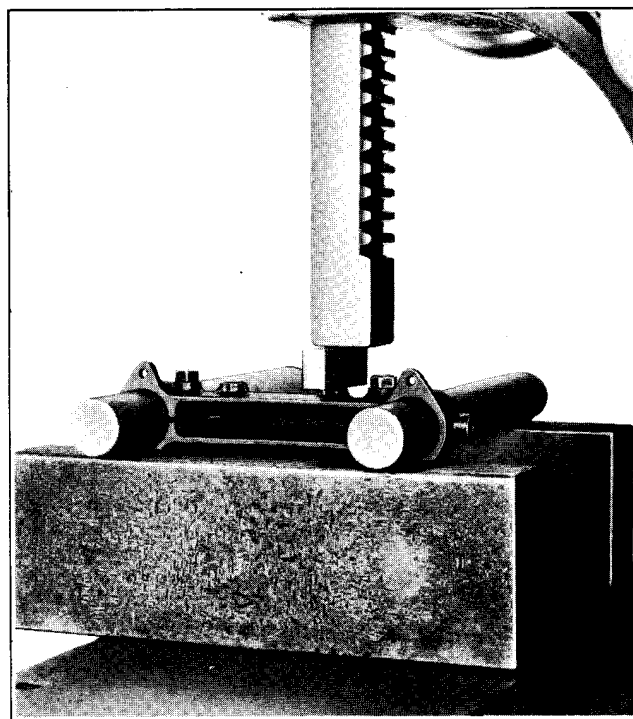

Figure 2-34I. Correcting Bracket Bow
Straightening a fork stem and bracket assembly not only requires a great deal of practice to become proficient, but also several special tools and fixtures, including an arbor press, surface plate or suitable heavy metal plate that is perfectly smooth, bending bar, four straightening blocks (W), two improvised steel gauging bars or legs 1-5/16 in. diameter x 12 in. length (X, Figure 2-34I), two steel support blocks (Y), and several steel press blocks (Z).
press. Then, press on the forward edge of bracket to correct "bow shaped" distortion (3) as shown in Figure 2-34I. Repeat pressing operation until bar is loose in bracket. Secure in place with two pinch bolts.
A bracket assembly is usually out of alignment from a horizontal centerline (1) with both legs bent or just one leg bent. (See Figure 2-34I).
Check to see if the fork stem is straight, true on a vertical centerline (2, Figure 2-34I) by using a fork